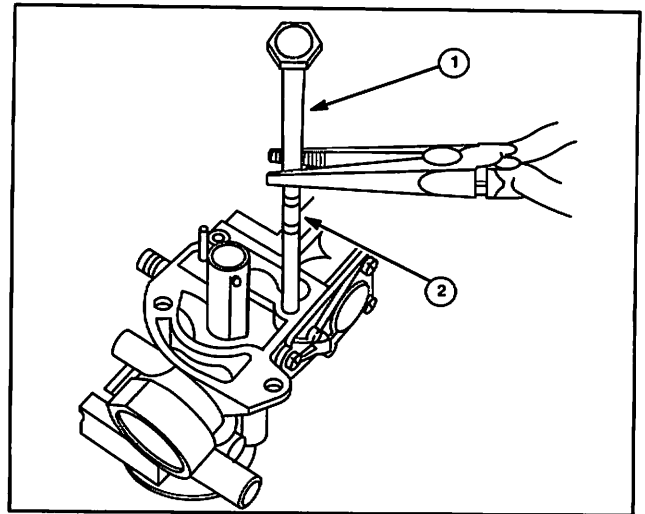

Fig. 68
1. To remove screen housing or nylon pipe from brass pipe, slide retaining clip (2) up onto brass pick-up tube (1).
3. Slide off old retaining clip and discard, Fig. 68.